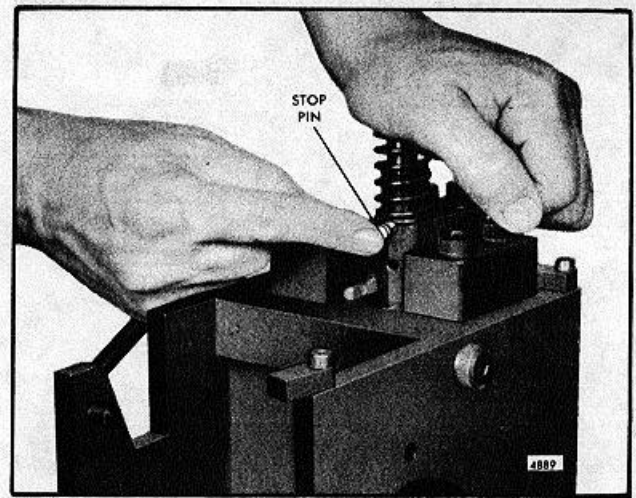

Fig. 42. Installing Injector Follower Stop Pin
3. Refer to Fig. 42 and place the stop pin on the injector body so that the follower spring rests on the narrow flange of the stop pin. Then align the slot in the follower with the stop pin hole in the injector body. Next align the flat side of the plunger with the slot in the follower. Then insert the free end of the plunger in the injector body. Press down on the follower and at the same time press the stop pin into position. When in place, the spring will hold the stop pin in position.